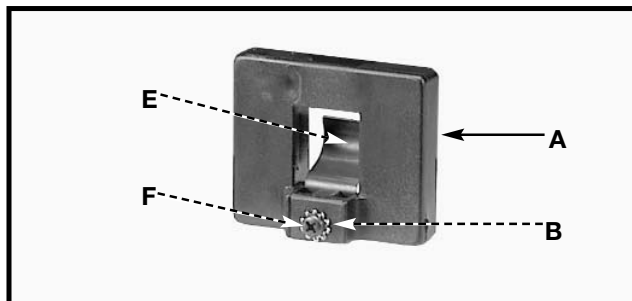
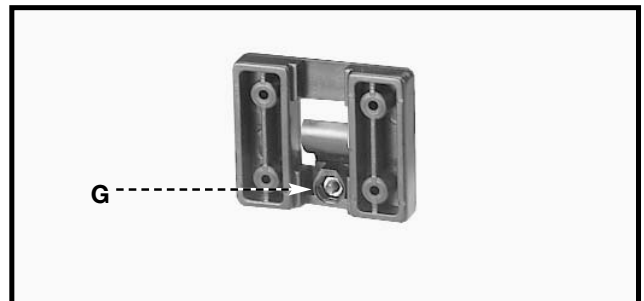

Fig. 19
Fig. 20
1. Attach the spring clip (E) Fig. 19 to the miter gauge holder (A) using an M4x.7x10mm pan head screw (F), 3/16" external tooth lockwasher, (B) and M4x.7 hex nut.
NOTE: The hex nut (G) Fig. 20 will fit into the recess at the back of the miter gauge holder (A) Fig. 19 to keep the spring clip (E) secured to the miter gauge holder.